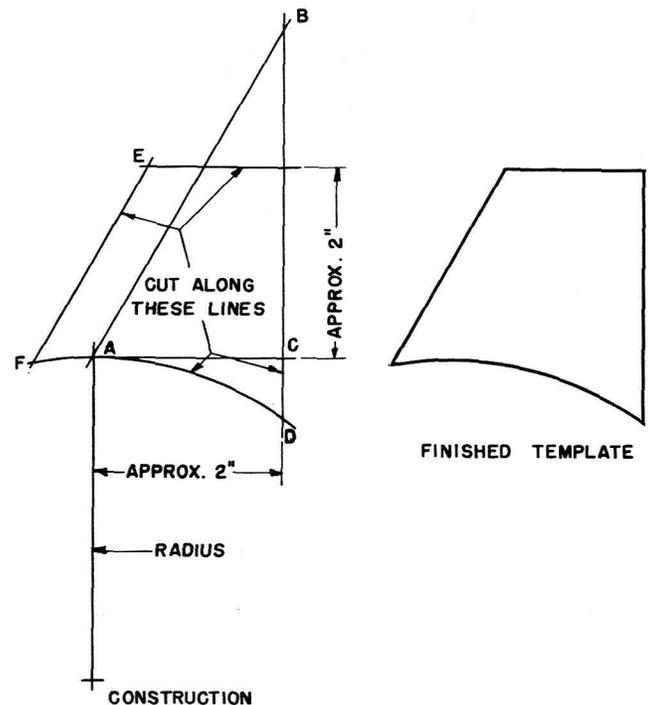

Fig. 24 - Template for Setting Baylis-Type Brush Holder
(1) To adjust the clearance between the lower edge of a box-type brush holder and the commutator, where the brush-holder yoke is not slotted, loosen the brush-holder clamping screw and rotate the brush holder on its stud as required. After an adjustment, be sure the clamping screw is tightened firmly. If the brush-holder yoke is slotted, proceed in accordance with (3) except that, with box-type brush holders, the brush angle is not so critical. After adjusting a brush holder, check the brush for fit and sand in, if necessary, in accordance with 3.13.
(2) To adjust the clearance between the lower edge of a double brush holder and the commutator, loosen the brush-holder bolt and slide the holder up or down as required.
(3) To adjust the distance between a Baylis-type brush holder and commutator, loosen the hexagonal nuts holding the brush-holder stud in place in the brush-holder yoke. Slide the stud in the slotted holes of the yoke as found necessary. Inasmuch as the brush angle is very critical, any adjustment of distance of the brush holder from the commutator should be made by sliding the brush stud up or down in the slots without turning the brush holders on the studs or the studs themselves. Check the angle after adjusting the clearance.
(4) To set a Baylis-type brush holder at the correct angle, cut a guide template as described below. Reproduce Fig. 24 on a piece of stiff cardboard, making the radius of the arc equal to the radius of the commutator. The radius is one-half of the diameter, which may be obtained by measurement, or the minimum diameter shown in 2.09(c) may be used. Draw a radius and, where it crosses the arc (point A), draw a line AC at a right angle to it. This will be tangent to the arc. From point A, measure 2 inches along this line and draw another line BD at a right angle. Measure along this line 3-1/2 inches for a General Electric or Electric Products machine and mark the point B. For a Hertner Electric machine, measure 3 inches. Draw the line AB. In the first case, this line will be at an angle of 60 degrees to the tangent and, in the second, at an angle of 56-1/2 degrees. Draw another line EF parallel to, and to the left of, the line AB at a distance from it equal to one-half the thickness of the brush. Cut the template as shown and, first loosening the setscrew which holds the brush holder to its stud, place the template against the commutator surface and the slide surface of the brush holder, rotating the holder to obtain the required angle. Tighten the setscrew firmly.
(5) In adjusting the clearance of any type of brush holder, it is desirable to work toward the minimum limit. If desired, a gauge instead of a scale may be used to measure the clearance between the brush holder and commutator.
(6) To adjust a brush-holder yoke, loosen the locknut or clamping screws, shift the yoke as necessary, and retighten. If the yoke is held